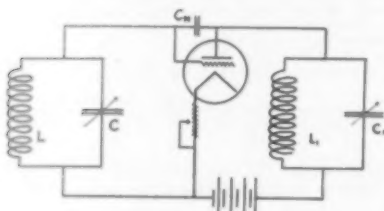
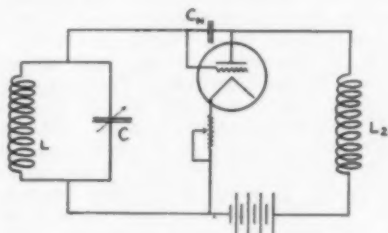

FIG. 1
FIG. 2
A fundamental circuit is shown in Fig. 1. When the tuned circuits LC and  $L_1C_1$  are resonant or approximately resonant the reaction currents through  $C_n$  will be of sufficient value to give rise to sustained oscillations. This assumes that the grid return is so connected that oscillations are possible—that is, the grid return is connected to the negative filament battery. By substituting a small inductance,  $L_n$ , in the place of  $L_1C_1$ , we will have a circuit as shown in Figure 2. In this instance, if the inductance  $L_n$  is small the reaction currents passing through  $C_n$  are so limited that oscillations can not be sustained.2
Now, if we bring the circuit  $L_1C_1$  into inductive relation with  $L_n$  as shown in Figure 3 (instead of putting it directly in the circuit as in Fig. 1) we will find it possible again to produce oscillations, providing the input circuit LC and the output circuit  $L_1C_1$  are in approximate resonance. A useful explanation for this condition resides in the fact that anything closely coupled to a circuit acts partially as if it were in the circuit. The nature and extent of this effect depend on (A) the closeness of the coupling and (B) the ratio of turns in the two coils. In this case we are concerned with the ratio of turns of the coils L and  $L_n$ ,